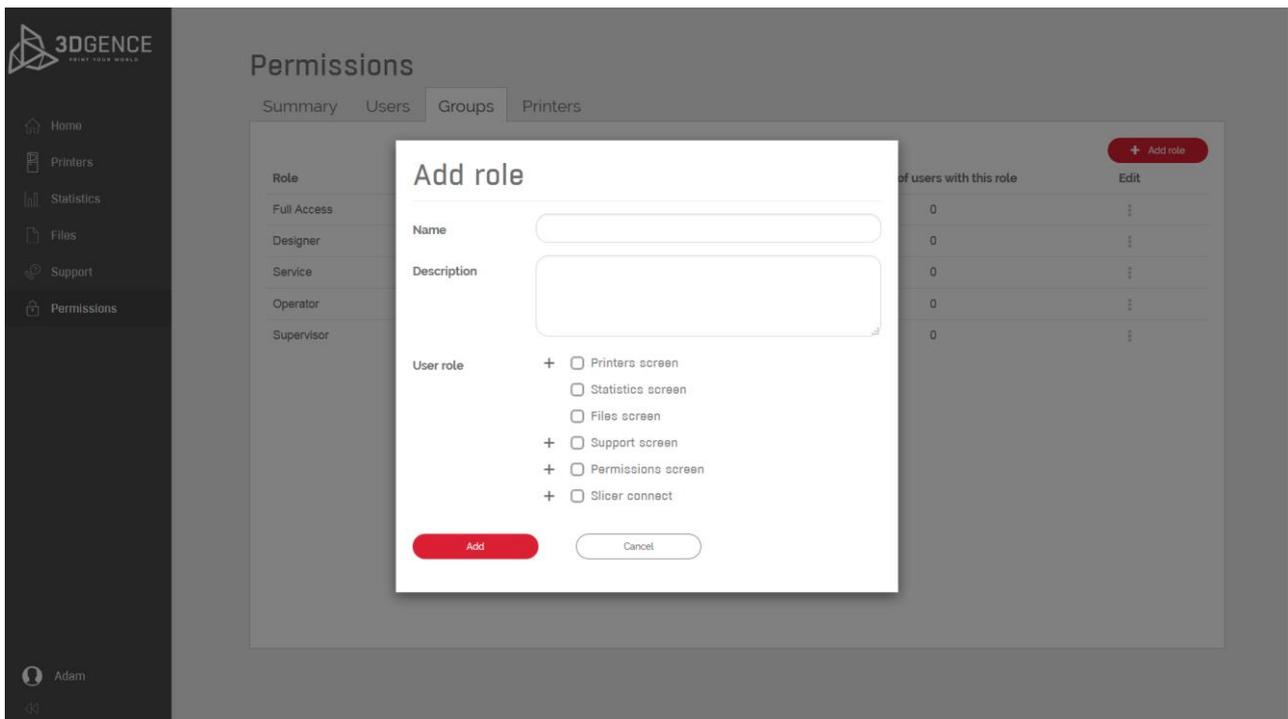

Fig. 23 Permission category – groups – add role
1. Use to add a new role / group (Fig. 23). After selecting this option, enter the name of the new group, its description and give the permissions that will be available to the group, and then select “add”.